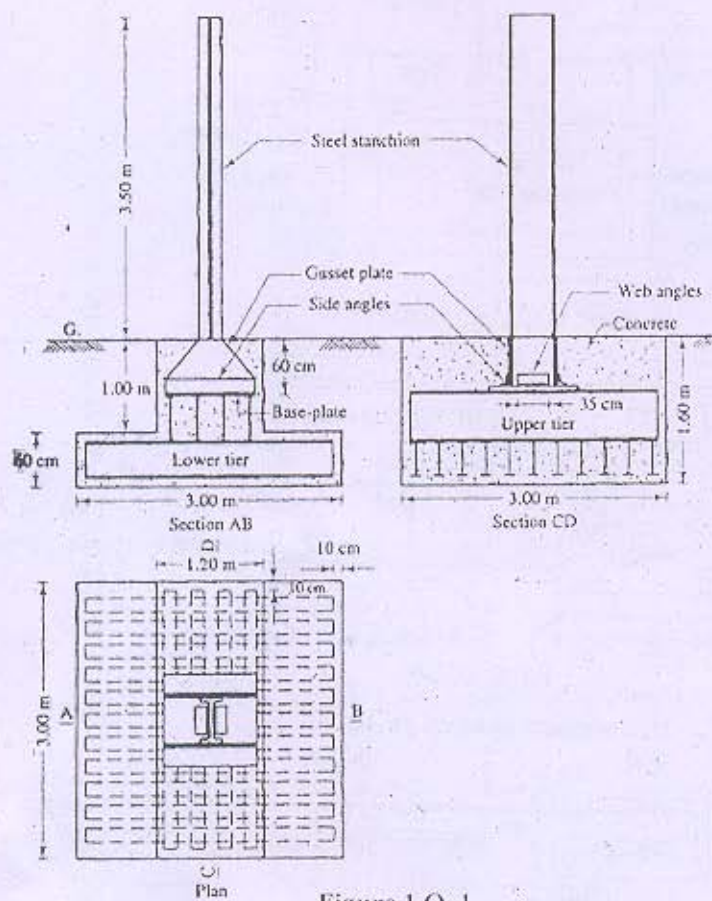

Figure 1 Q.1
- Q-1 Figure 1 & Table-1. Shows the details of a steel stanchion with grillage foundation [07]